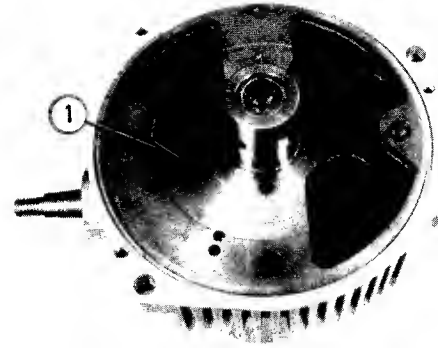

FIG. 4.48-PINTLE VALVE BODY
16. The pintle assembly (valve body). No. 1, Fig. 4.48 may now be lifted from the aluminum body.